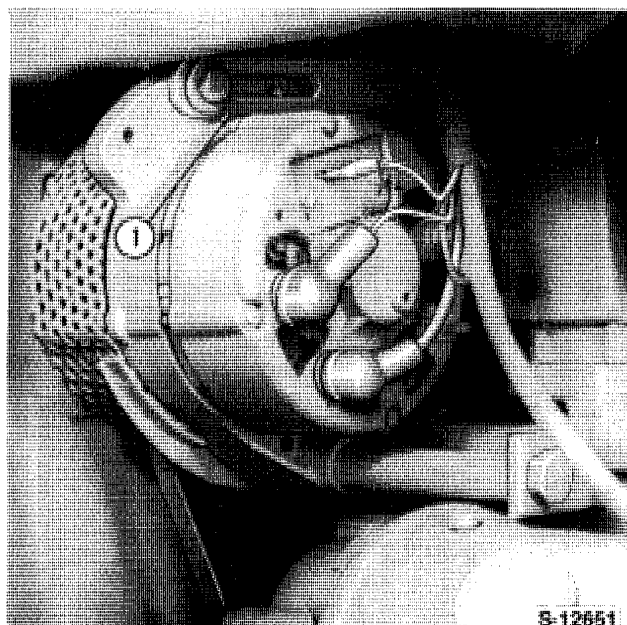

**Figure 4**
8. Remove the alternator adjusting bracket, Figure 4.